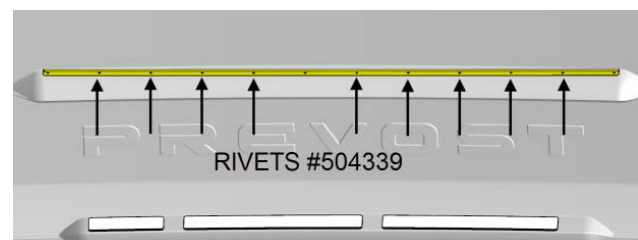

FIGURE 29
- Fasten drip edge using nine (9) rivets #504339 as shown on FIGURE 29. Use a 9/64" drill bit.